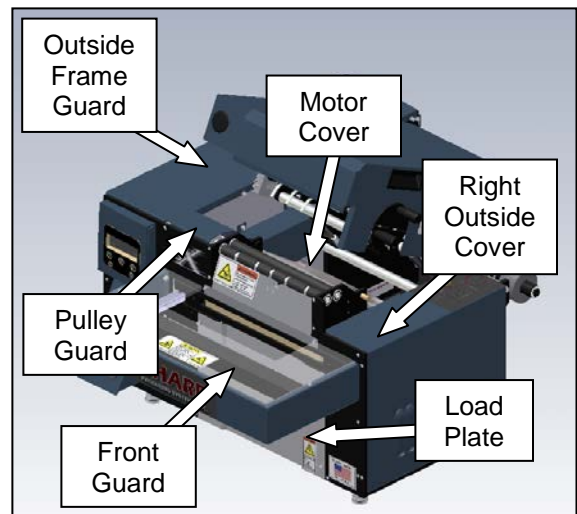

Figure 3-310. Guard Identification
- Remove the six guards identified in (Figure 3-310) if not done in the testing section.